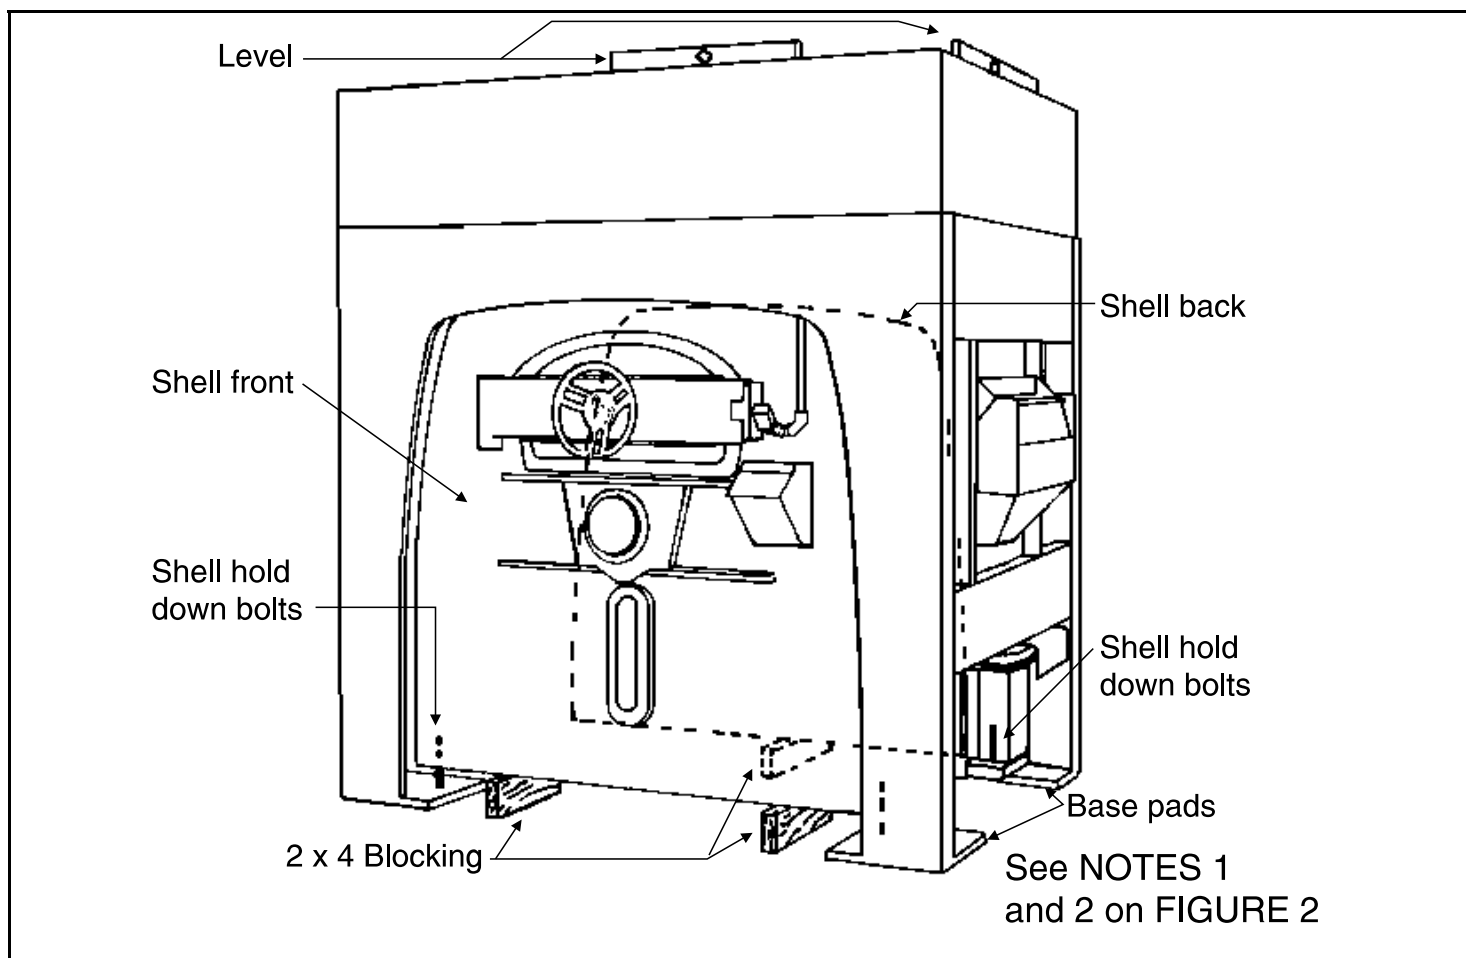

FIGURE 3 (MSIN0301AE)
To protect against lateral “creeping” of the machine during operation, due to vibration, roughen the area of the floor where grout will be applied. Anchor bolts are required for most of the models covered by this document (refer to the machine dimensional drawing). Once the foundation is prepared, the shipping skids are removed and the machine is ready to be set in its desired position. See FIGURES 3 and 7, then proceed as follows:
2. Put shims on top of the 2 x 4's until the machine has approximately 1" clearance under each base pad and is level. Check level as shown in FIGURE 3.